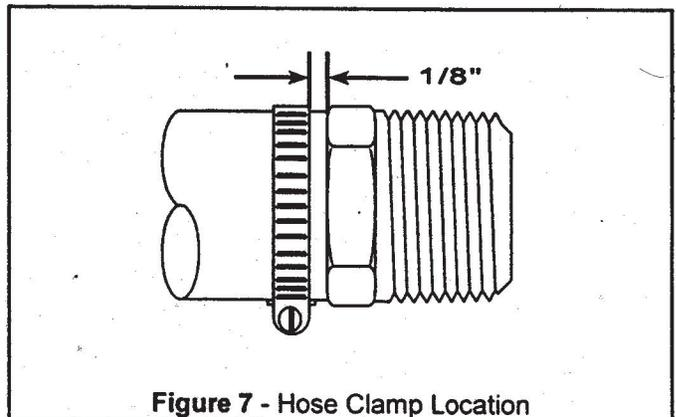

Figure 7 - Hose Clamp Location
- 4) Position hose clamp as shown in FIGURE 7 and secure with a screwdriver or wrench. Maximum recommended torque 30 in. lbs.